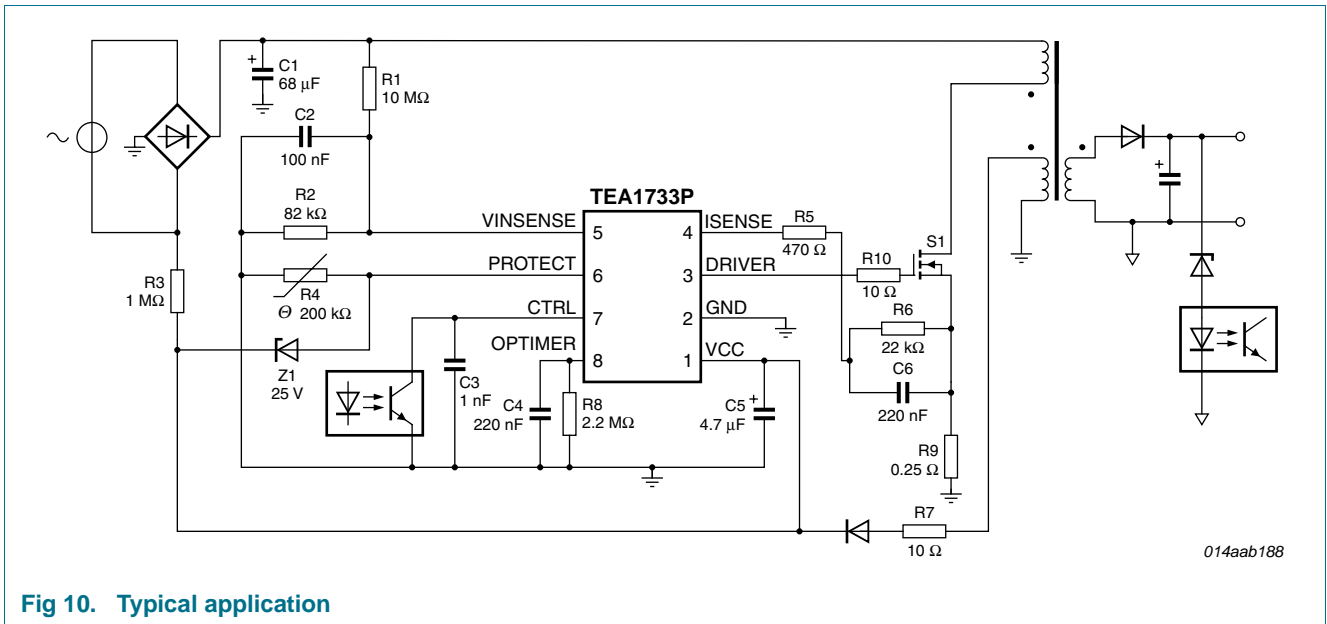

Fig 10. Typical application
A power supply with the TEA1733P is a flyback converter operating in Continuous conduction mode (See Figure 10).
In the example shown in Figure 10, the PROTECT pin is used for OVP and OTP. The OVP level is set by diode Z1 to $V_{CC} = 25.8\text{ V}$. The OTP level is set by Negative Temperature Coefficient (NTC) resistor R4. The VINSENSE pin is used for mains voltage detection and resistors R1 and R2 set the start voltage to about 80 V (AC). The overpower protection time is defined by capacitor C4 is set at 60 ms.